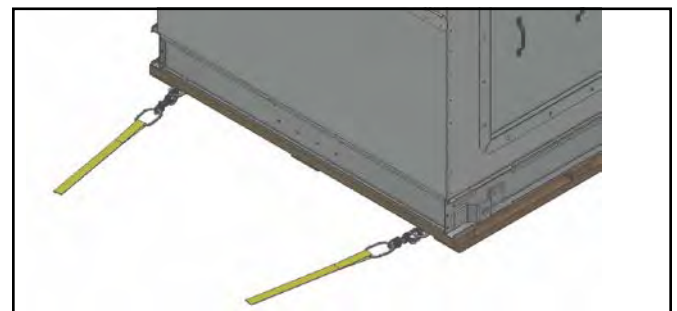

Figure 9 – Removing Unit from Container Using Pulling Lugs
1. Remove the unit from the container using the pulling lugs as shown in Figure 9.